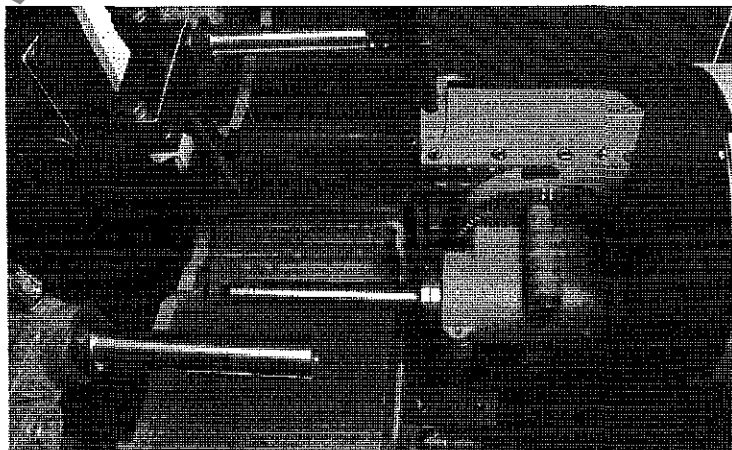

Figure 8.1.3
8.1 Universal Head (Figures 8.1.3 to 8.1.7)
Bottom Horizontal Head (Figures 8.1.3 and 8.1.7)